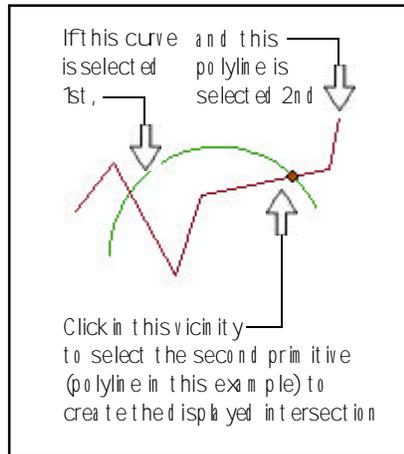

Figure 5 Polyline - Curve Intersection
5. **Polyline with a curve** yielding at least as many possible intersections as the number of times the polyline crosses the curve. The intersection that is used is the one nearest to the user's click that selected the second primitive, regardless whether that primitive is a curve or a polyline. See Figure 5. Also refer to the additional comments below regarding polyline intersection rules.